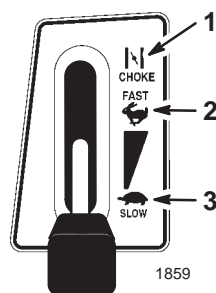

Figure 7
4. Move the throttle lever to Choke (Fig. 7).
- After the engine starts, slowly move the throttle lever to Fast (Fig. 7). If the engine stalls or hesitates, move the throttle lever back to Choke for a few seconds. Then move the throttle lever to Fast. Repeat this as required.
- Move the throttle lever to Fast (Fig. 7).